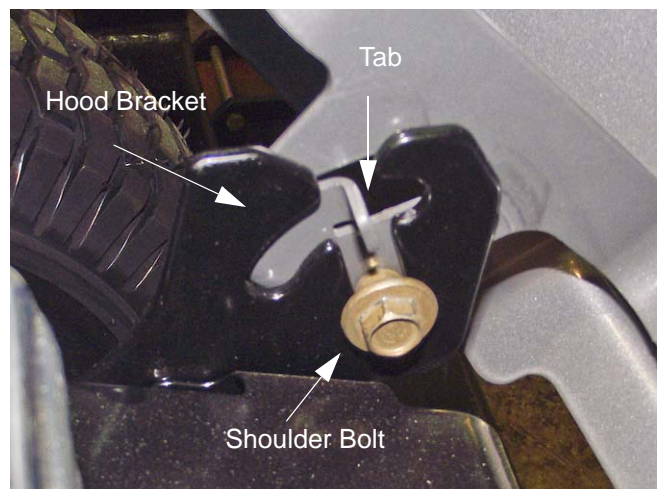

Figure 4.4
6. Open the hood far enough to align the tabs with the opening in the slots, then lift the hood off of the tractor. See Figure 4.4.